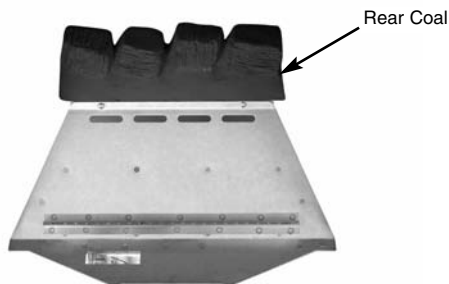

Fig. 79
1. Place the rear coal on the rear coal retainer ledge in a central position (Fig. 79).